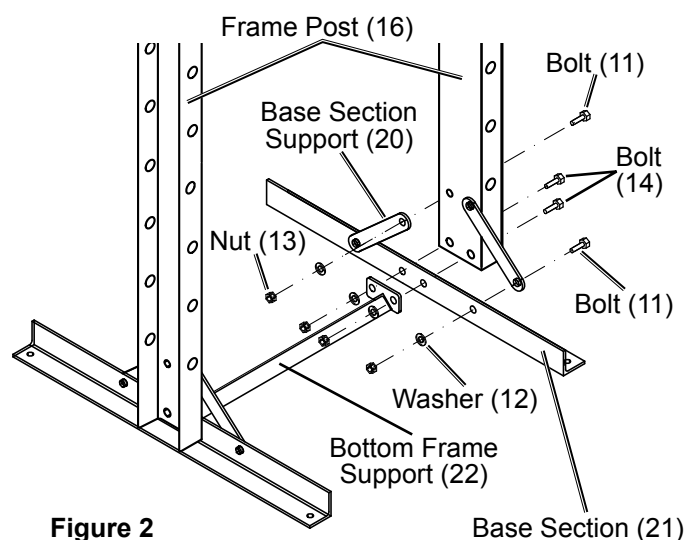

Figure 2
3. Attach the Base Section Supports (20) to the Frame Posts and Base Sections using the Bolts (11), Washers (12), and Nuts (13). See Figure 2.